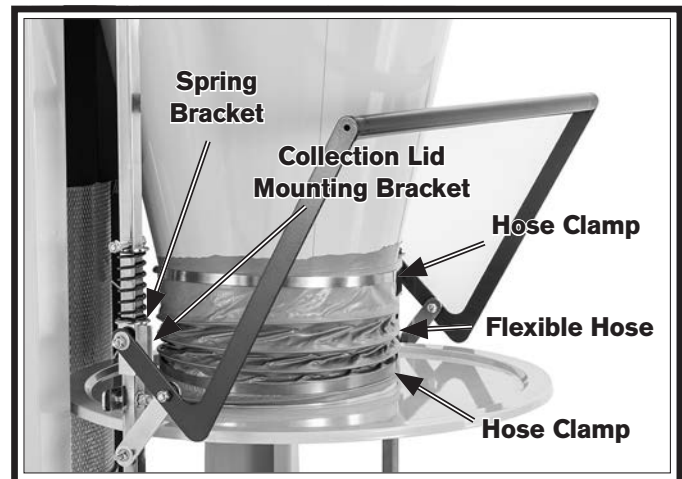

Figure 17. Collection drum lid and lock handle installed.
13. Place (2) drum hose clamps around drum hose, then slide hose over port on collection drum lid and tighten bottom clamp (see **Figure 17**).
14. With collection drum lid mounting brackets facing up, orient lid so dust port, drum hose, and spring brackets align (see **Figure 17**).
15. Secure collection drum lid to spring bracket using pre-installed fasteners (see **Figure 17**).
16. Attach drum hose to cyclone funnel and secure with top hose clamp (see **Figure 17**).